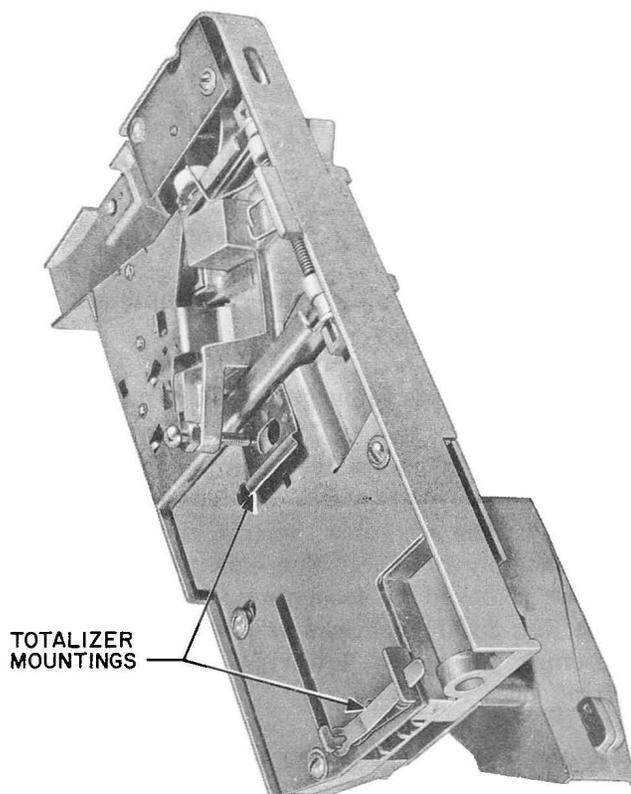

Fig. 7 - Coin Chute
3.06 The coin chute serves as a mounting for the totalizer. (See Fig. 7 and 8.) The coin chute and totalizer ordinarily should not be separated. If a replacement is needed, a new coin